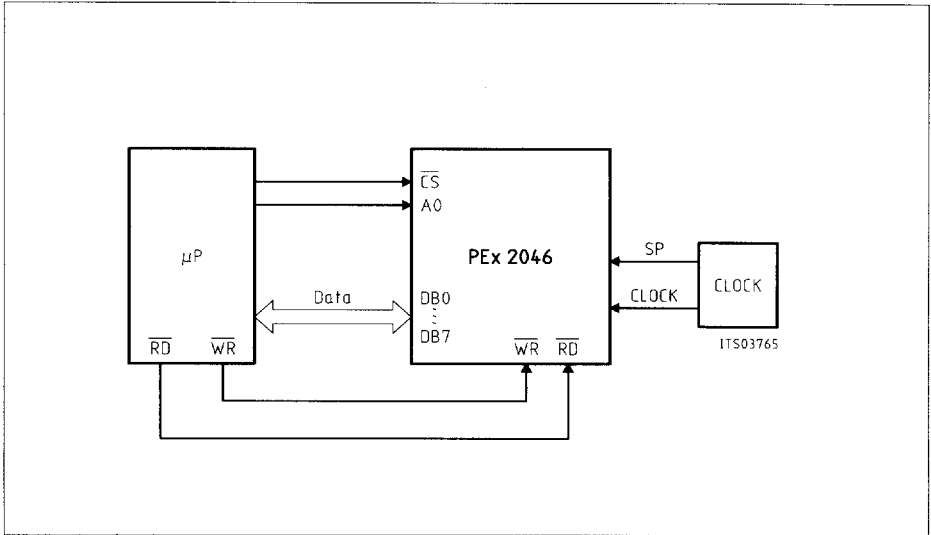

Figure 6
The PEx 2046 is programmed via the μP interface. It consists of the data bus DB7 ... DB0, the address bit A0, the Write (WR), the Read (RD) and Chip Select (CS) signal, as shown in figure 6.